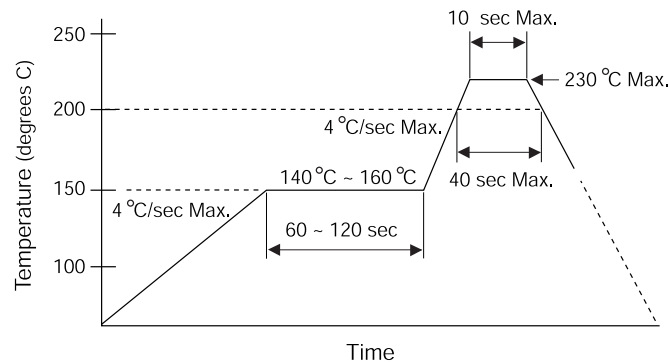

Figure 6. Temperature Profile for the Top Surface
- The temperature profile at the top surface of the ZHX1203 transceiver, shown in Figure 6, is recommended.